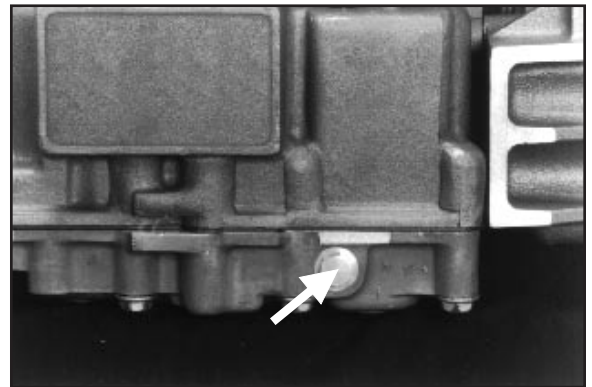

Fig. 5
- Begin by draining the oil from the transmission. Use caution, since the oil may be hot (Fig. 5).